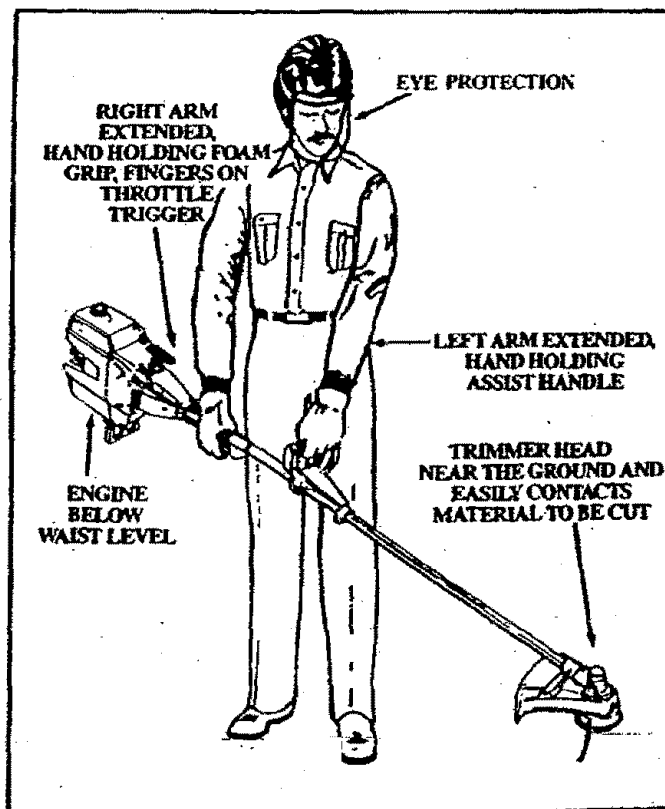

Figure 9
6. OPERATING POSITION — Figure 9
- a. Before starting the Engine, stand as shown in Figure 9 and check for the following